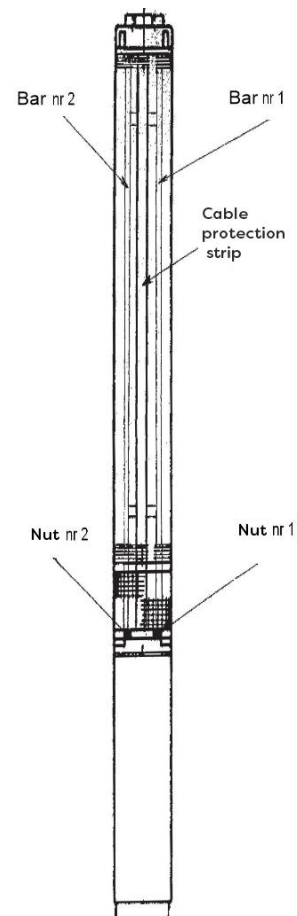

Fig. 2
Installation of the hydraulic part with the motor (Fig. 2):
- Before assembling the hydraulics with the motor, you will need a spanner no. 13 for 4" pumps; in the case of 6" pumps you will need a ring spanner no. 19. Use this spanner to unscrew the nuts No. 1 and 2 (Fig. 2) to loosen the bars No. 1 and 2 (Fig. 2)
- Remove the suction screen (item 2) and expose the pump shaft end (item 3). Slide the cable protection strip towards the discharge outlet, and then bring it closer to strip 2 so that the cable strip can be removed,